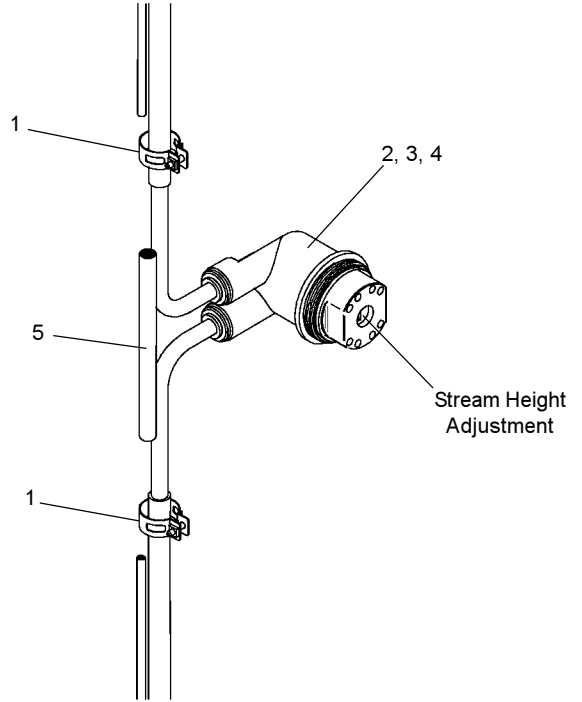

Fig. 2
Remove the PVC cap from the PVC column. This will require removing the fountain from the concrete pad. Remove the valve assembly from the PVC column by carefully pulling up on the connecting tubing. Cut a 6" piece out of the water supply line. **Be sure not to cut the air line.** Once water supply line is cut, insert the regulator/tube assy. and secure with clamps (See Fig. 2). Pressure test the valve assembly for leaks. Check stream height from the bubbler. Stream height is factory set at 35 PSI. If supply pressure varies greatly from this adjust the screw on item 4. Clockwise adjustment will raise stream and counter-clockwise adjustment will lower stream. For best adjustment stream height should be approximately 1-1/2" (38mm) above the bubbler guard. Replace the water valve into the PVC column. Make sure the supply hose coils into the bottom of the PVC column without any kinks and double check that the water valve is positioned fully at the bottom of the PVC column. Cap the PVC column and re-mount the fountain.